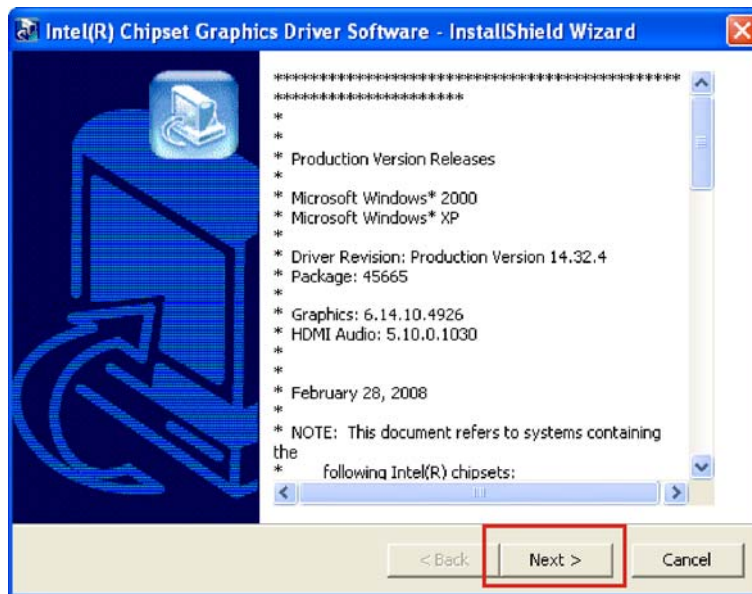

Figure 6-9: VGA Driver Read Me File
Step 3: The VGA Read Me file in **Figure 6-9** appears.